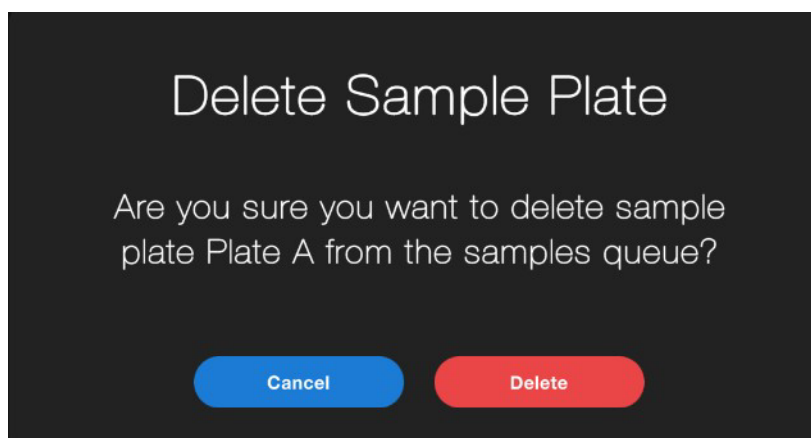

Figure 7.14 Warning message for the confirmation of sample deletion.
- If you click on "Delete Sample Plate", a warning message will be displayed (Figure 7.14)